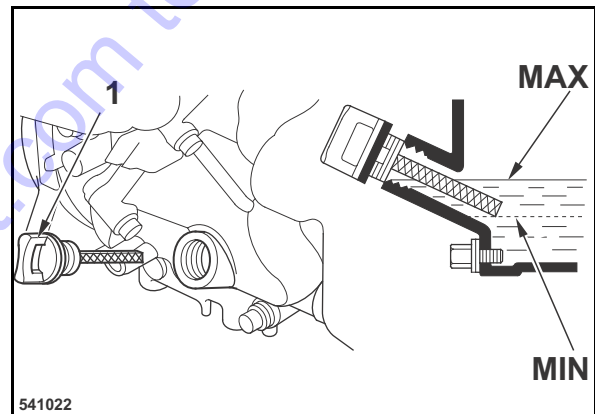

Fig. 35
- Clean the area around the oil dipstick (1) (Fig. 35).